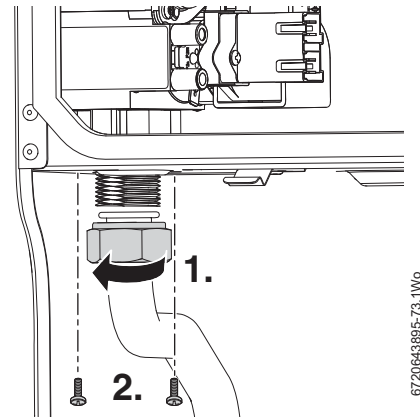

Fig. 73 Gas valve lower connection
1. Refer to figure 73 and undo bottom gas connection to gas valve.